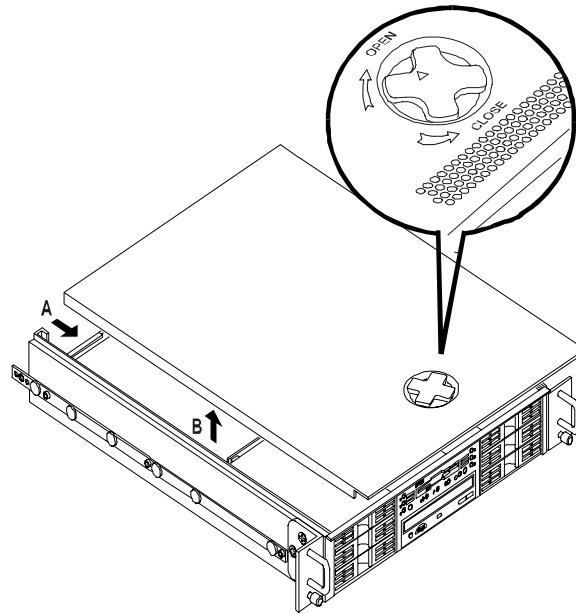

Figure 2-2. Removing the Top Cover
4. Release the top cover by turning the knob at the front of the chassis in a clockwise direction. See Figure 2-2.